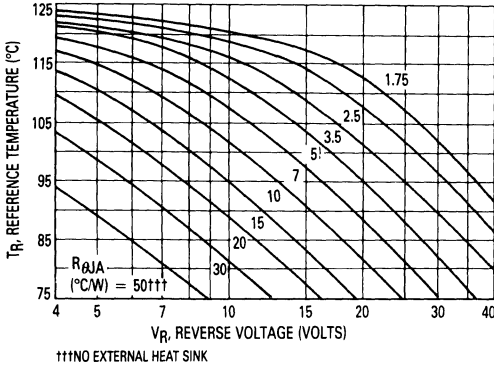

Figure 3. Maximum Reference Temperature — 1N5831
Step 2: Find  $T_R$  from Figure 3. Read  $T_R = 113^\circ\text{C}$  @  $V_R = 9.18$  &  $R_{\theta JA} = 5^\circ\text{C/W}$